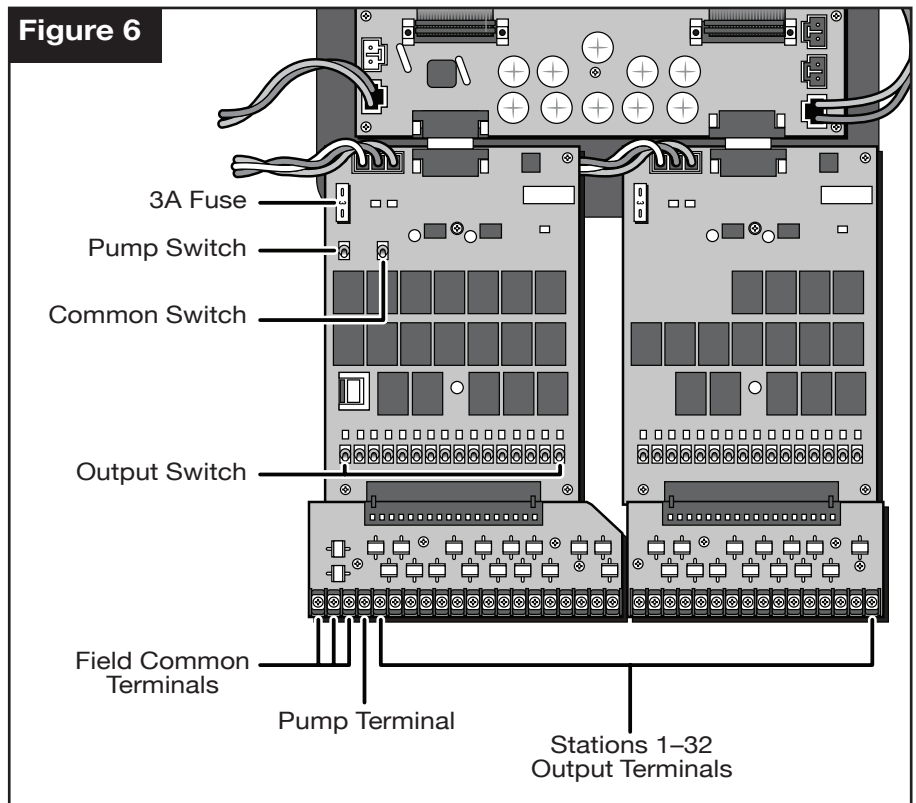

Figure 6
3. Secure the field common wire(s) and pump start relay (or master valve) wire to the appropriate terminals on the Pump/Com module. See **Figure 6**.
4. Secure the valve control wires to the station terminals in the preferred order of operating sequence. Station terminals are numbered left to right, 1–32 (front) and 33–64 (back). Each terminal can accommodate two 14 gage (1.5mm²) solid copper wires. See **Figure 6**.